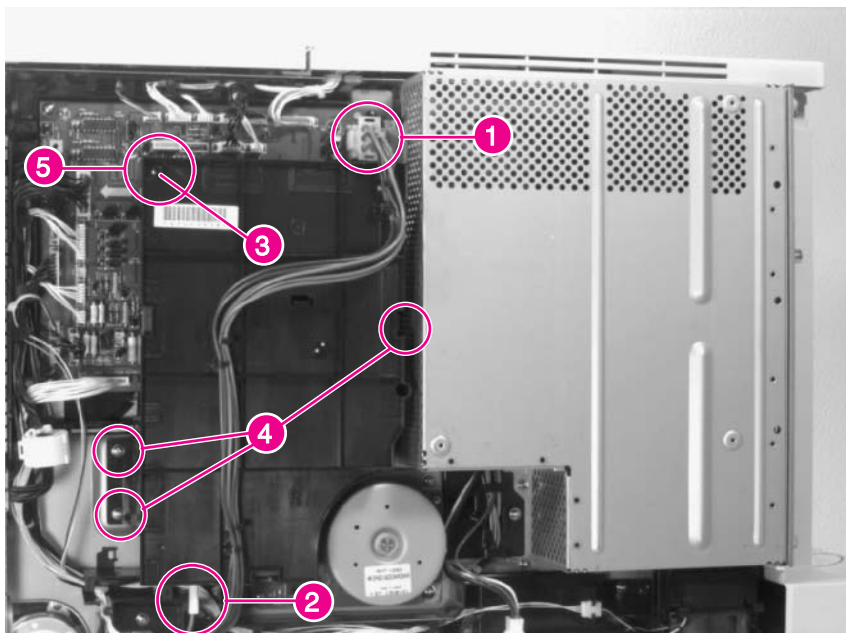

Figure 6-49 High Voltage Power Supply
- High Voltage Power Supply (HVPS) (see figure 6-49 on page 215)
- 2 Remove the HVPS (see figure 6-49 on page 215).
- 3 Remove the High Voltage Power Supply (see figure 6-49 on page 215).
- 2 Unplug the cable from the LVPS to the DC Controller PCA (figure 6-49, callout 1), and move it out of the way.
- 3 Unplug the connector from the bottom of the HVPS (figure 6-49, callout 2).
Do NOT remove the screw indicated in Figure 6-49, beneath the null symbol
- 4 Remove 1 self-tapping screw (figure 6-49, callout 3) and 3 screws (figure 6-49, callout 4).
Make sure that the plastic alignment pin (figure 6-49, callout 5), the connector pins, and the high voltage contacts are properly aligned before replacing the screws.